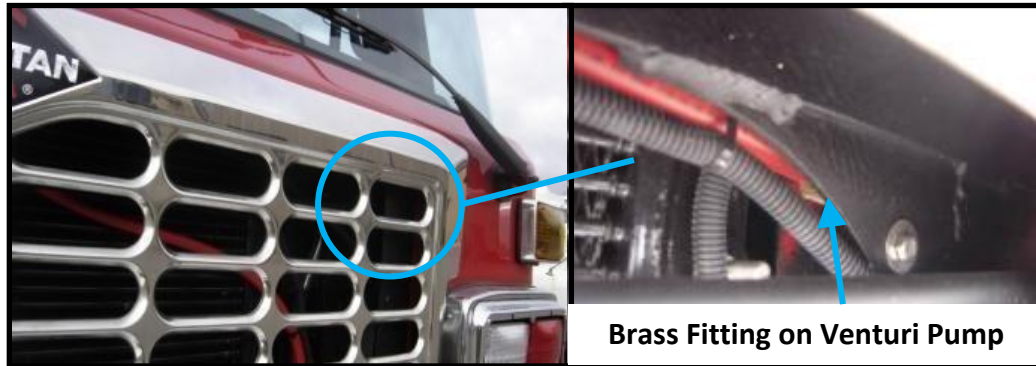
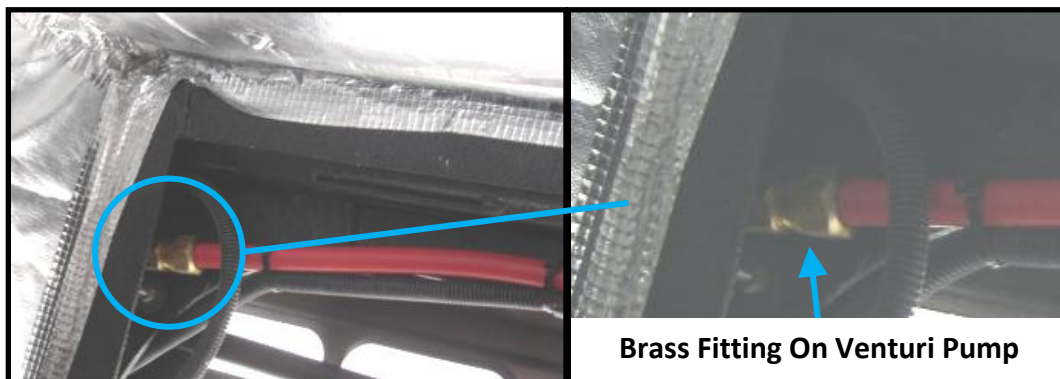

FIG. 6-12
FIG. 6-13
Vehicles equipped with an overhead HVAC unit have two methods of condensate management. One method utilizes a "venturi pump" as depicted in FIG. 6-13. It is very important that the drain lines remain clean, open, and free from any debris buildup. This document describes the recommended procedure for cleaning the venturi drain style only. It is also recommended that this cleaning procedure is to be utilized every 12 months (customers in hot and humid environments may need to clean the condensate drain more frequently than once every 12 months).
4. Carefully loosen the brass fitting located on the venturi pump. The venturi pump is located behind the cab grille as depicted in FIG. 6-12. The grille may be removed or the cab may be tilted (refer to FIG. 6-13 for pump viewed with cab tilted) for ease of access. This fitting should be a "1/4-1/2 turn" over hand tight. If you are unable to loosen by hand, two wrenches may be used. Take great care when using wrenches so you **do not** damage the venturi pump.
5. Gently pull the drain line out of the brass fitting on the venturi pump, and then push thru the grille refer to FIG. 6-12 & 6-13.
8. Reassemble the drain line into the brass fitting on the venturi pump and tighten 1/4-1/2 turn past hand tight. If using wrenches to tighten, take great care not to damage the venturi pump. Refer to FIG. 6-12 & 6-13.